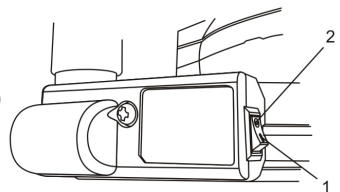

Fig. 9
To turn the laser ON, press the left side of the laser switch (1) (Fig. 9). To turn the laser OFF, press the right side of the laser switch.